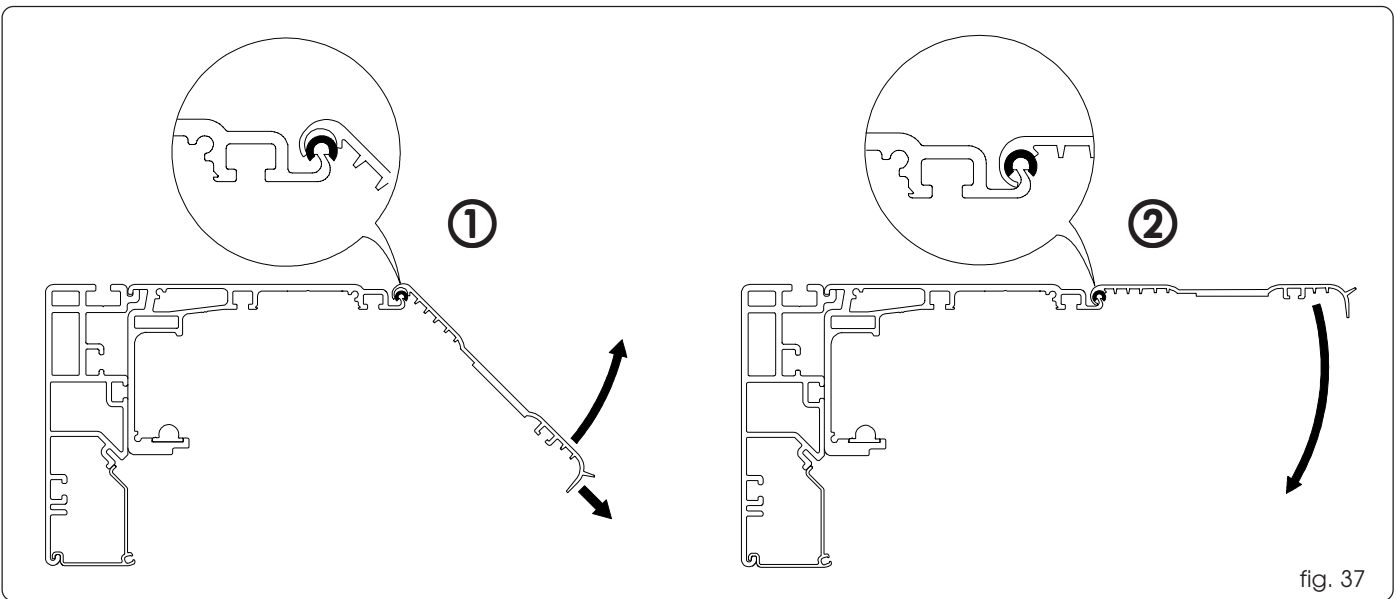

fig. 37
Position the closure housing on the anti-vibration spacers; pull it as shown in fig. 37 ref. ①, and turn it upward (fig. 37 ref. ②) to obtain correct coupling. Check correct fitting along the whole length of the housing.